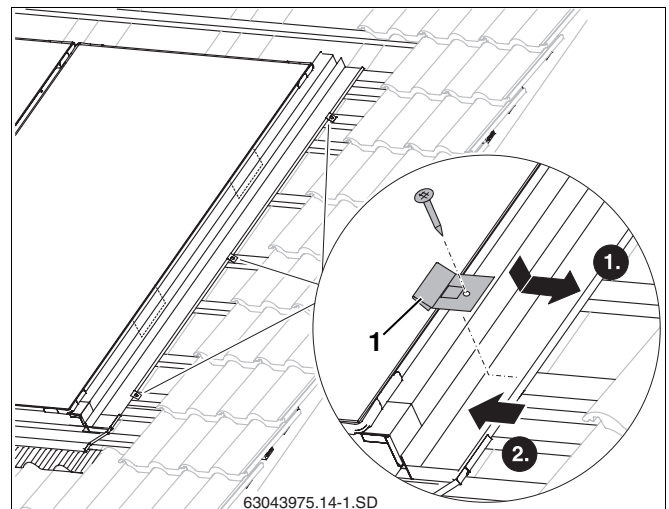

Fig. 48 Securing side facing collector
- Insert clip (Fig. 48, **Item 1**) into the edge of the side facing collector.